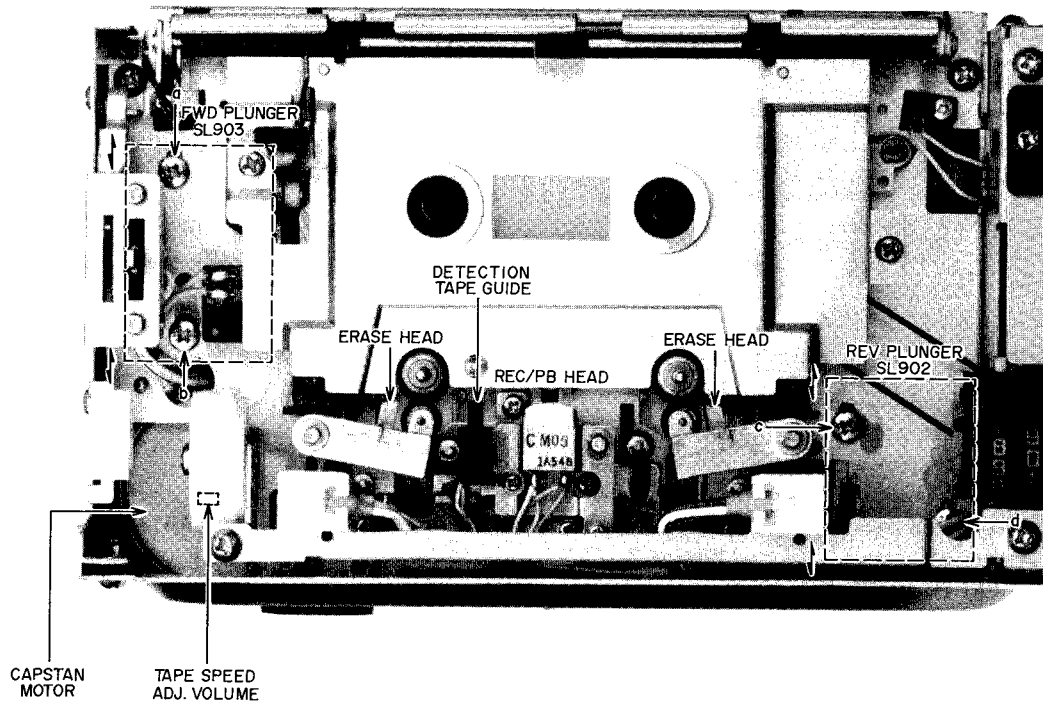

Fig. 6
- 1) Forward Plunger Adjustment (Refer to Figs. 6, 8)
- 3) Reverse Plunger Adjustment (Refer to Figs. 6, 8)
(Refer to Fig. 6)